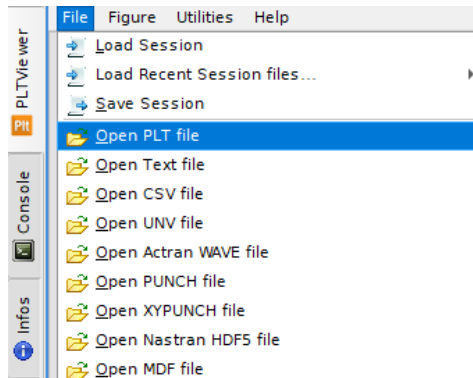

Figure 6.34: Import the PLT result file into PLTVIEWER
- Open the "horn.plt" result file in PLTVIEWER (Figure 6.34).